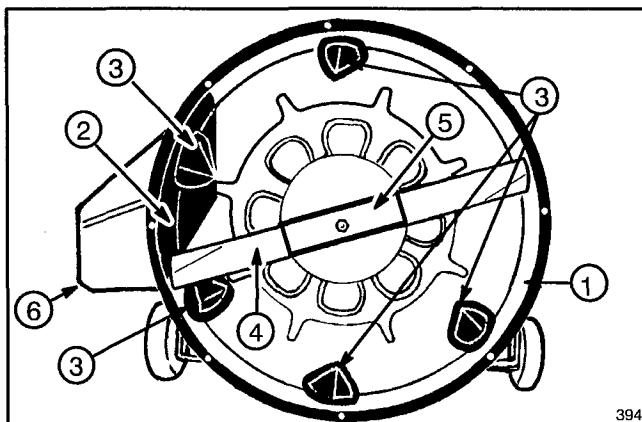

Figure 10
To side discharge or use bagging attachment, stop engine and wait for all moving parts to stop. Then remove the wing nut securing the discharge cover (Fig. 10) to the mower housing. **NEVER REMOVE THE GRASS DEFLECTOR FROM THE MOWER HOUSING (Fig. 10).** Save the discharge cover and wing nut for possible future reinstallation.
NEVER remove the grass deflector (Fig. 10) from the mower housing. If the discharge cover under the grass deflector is removed in order to side discharge or bag, the grass deflector routes discharged material down toward the turf. If the deflector is ever damaged, replace it. Without the deflector or complete grass catcher assembly mounted in place, discharged material could cause personal injury or blade contact could occur.
The rider is equipped with special parts (Fig. 10) which increase your rider's ability to cut and recut grass clippings, leaves, and other yard debris into tiny particles which are injected down into the grass. These parts are:
**Never remove the grass deflector (Fig. 10) from the mower housing. If the discharge cover under the grass deflector is removed in order to side discharge or bag, the grass deflector routes discharged material down toward the turf. If the deflector is ever damaged, replace it. Without the deflector or complete grass catcher assembly mounted in place, discharged material could cause personal injury or blade contact could occur.**